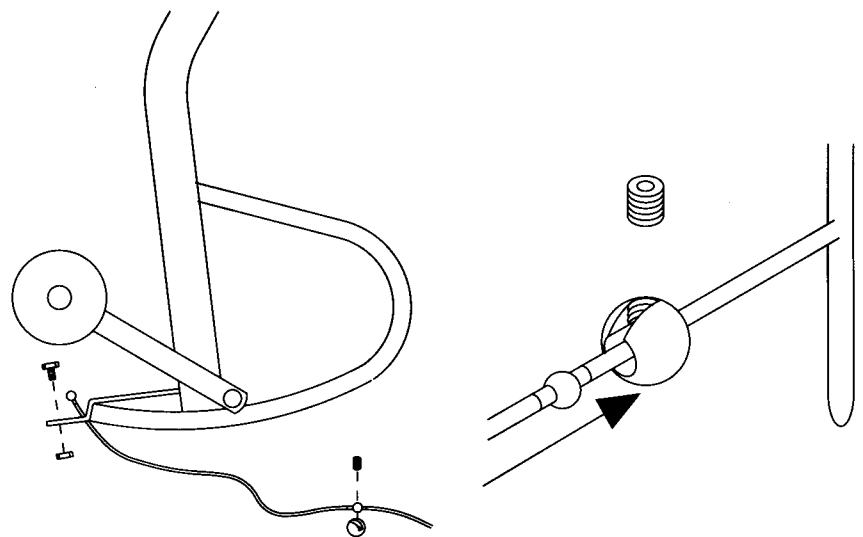

FIG. 3A
7. Route the cable at the base of the row column through the row arm pivot and the pulley inside the base of seat column, exiting through the slot in the front of the column. Attach the aluminum ball to the cable as shown (Fig. 3A) and attach the cable end to the leg developer, securing it with the 1/4-20 x 1/2 screw and nut. (Caution: cable must be routed correctly. Above pivot, between pulley and keeper, between floor supports.)